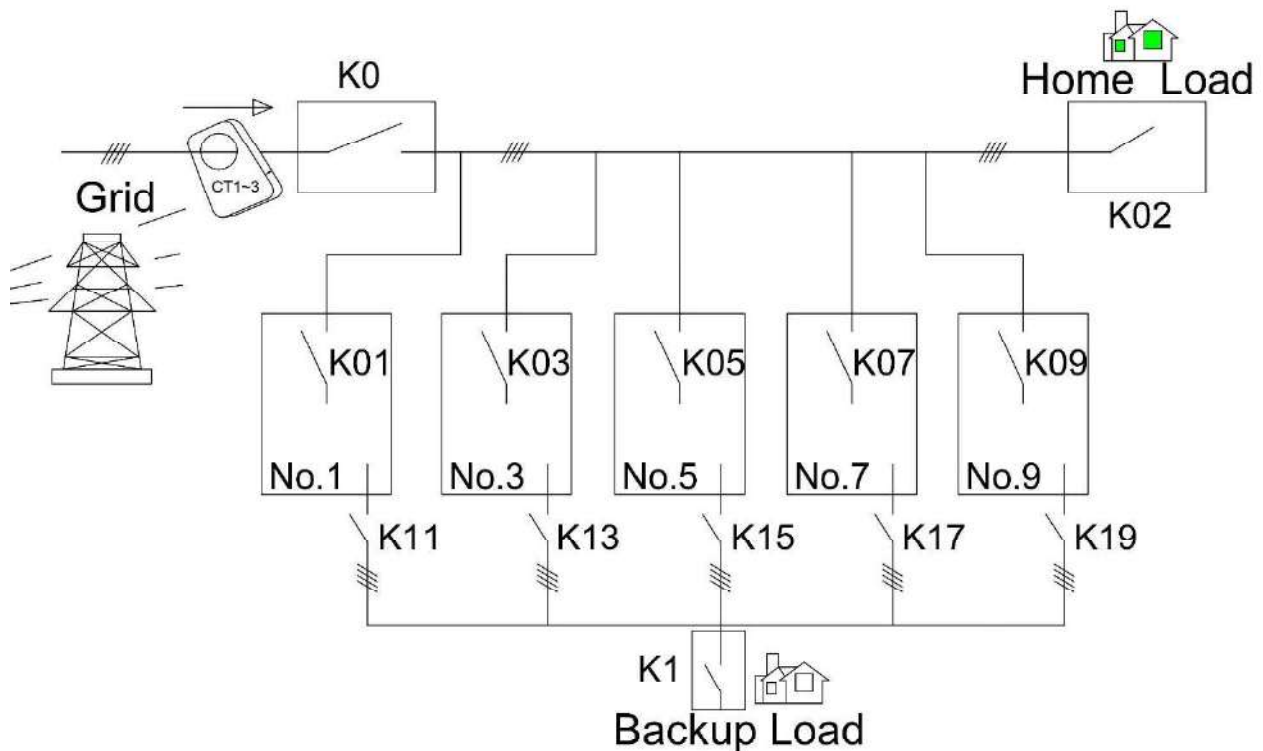

Figure 4.7 The connection diagram of five inverters
Figure 4.7 below shows the connection diagram of five inverters (No. 1, 3, 5, 7, 9). K0 is the main circuit breaker of the power grid. K11, K13, K15, K17, K19 are load circuit breakers, K1 is the load circuit breaker. K02 is a home load circuit breaker. Each inverter has its own power grid circuit breaker respectively K01, K03, K05, K07, K09.
a) Check whether the cable connection is correct as shown in Figure 4.7 (for BMS connection, CT or